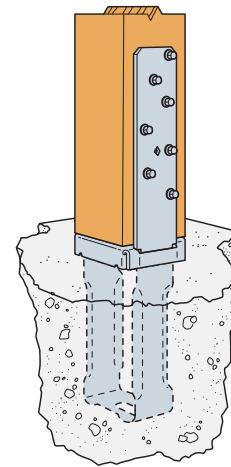

Figure 1 — Post Base with 1" Standoff
- For post bases with 1" standoffs, full bearing on concrete is required. **Standoffs shall bear on top of concrete and not be embedded into wet concrete.** A higher download may be achieved by solidly packing grout in the 1" standoff area before installation of the post. Allowable download shall be based on the capacity of the post, grout or concrete according to the code. (Figure 1)